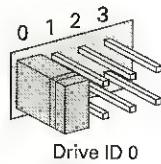

Figure 2-9: Your CD-ROM drive's ID jumper setting
-  Make sure the ID jumper setting at the rear panel of the CD-ROM drive you are connecting your 3DO Blaster to is set to 0 (see Figure 2-9). Refer to your drive's documentation to change drive IDs.